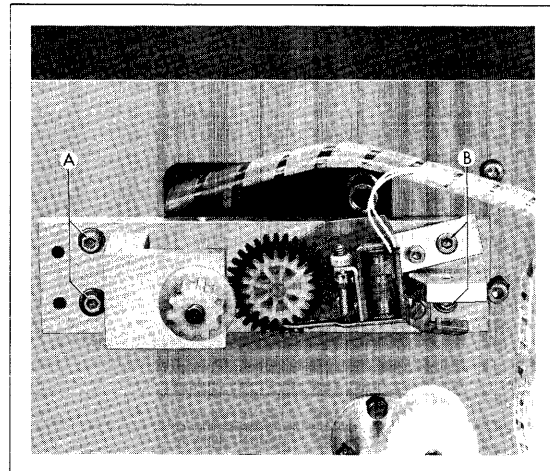

Figure 29
2. Remove the drive belt and the escapement adjusting screw to expose the two mounting screws (B, Figure 29).
3. Remove the four mounting screws (A and B, Figure 29). Slide the package back and up to pull it away from the panel.